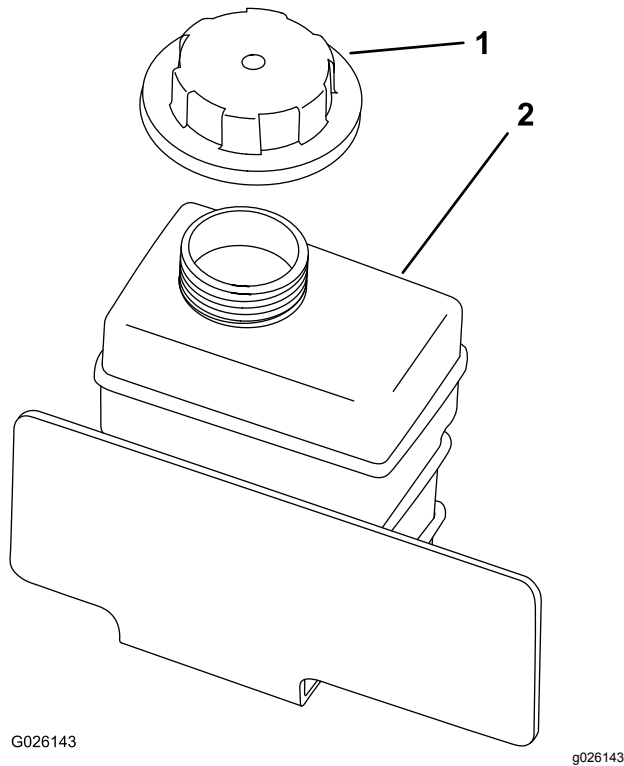

Figure 53
8. Slowly fill the coolant-reserve tank until level reaches the bottom of the filler neck (Figure 53).
9. Install the reserve-tank cap (Figure 53).